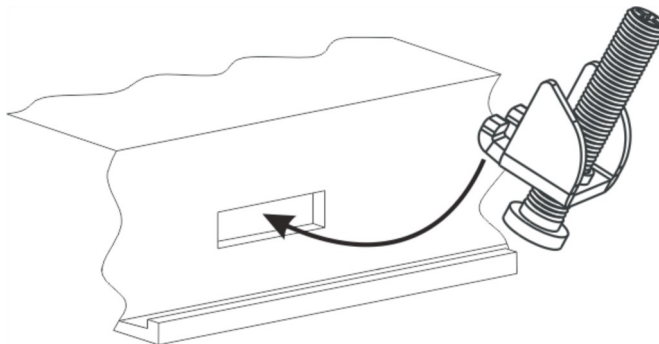

Figure 3: Usage of the assembly clamps
- Tighten the bolts until the frame corners are in contact with the HMI Lite (see fig. 3).